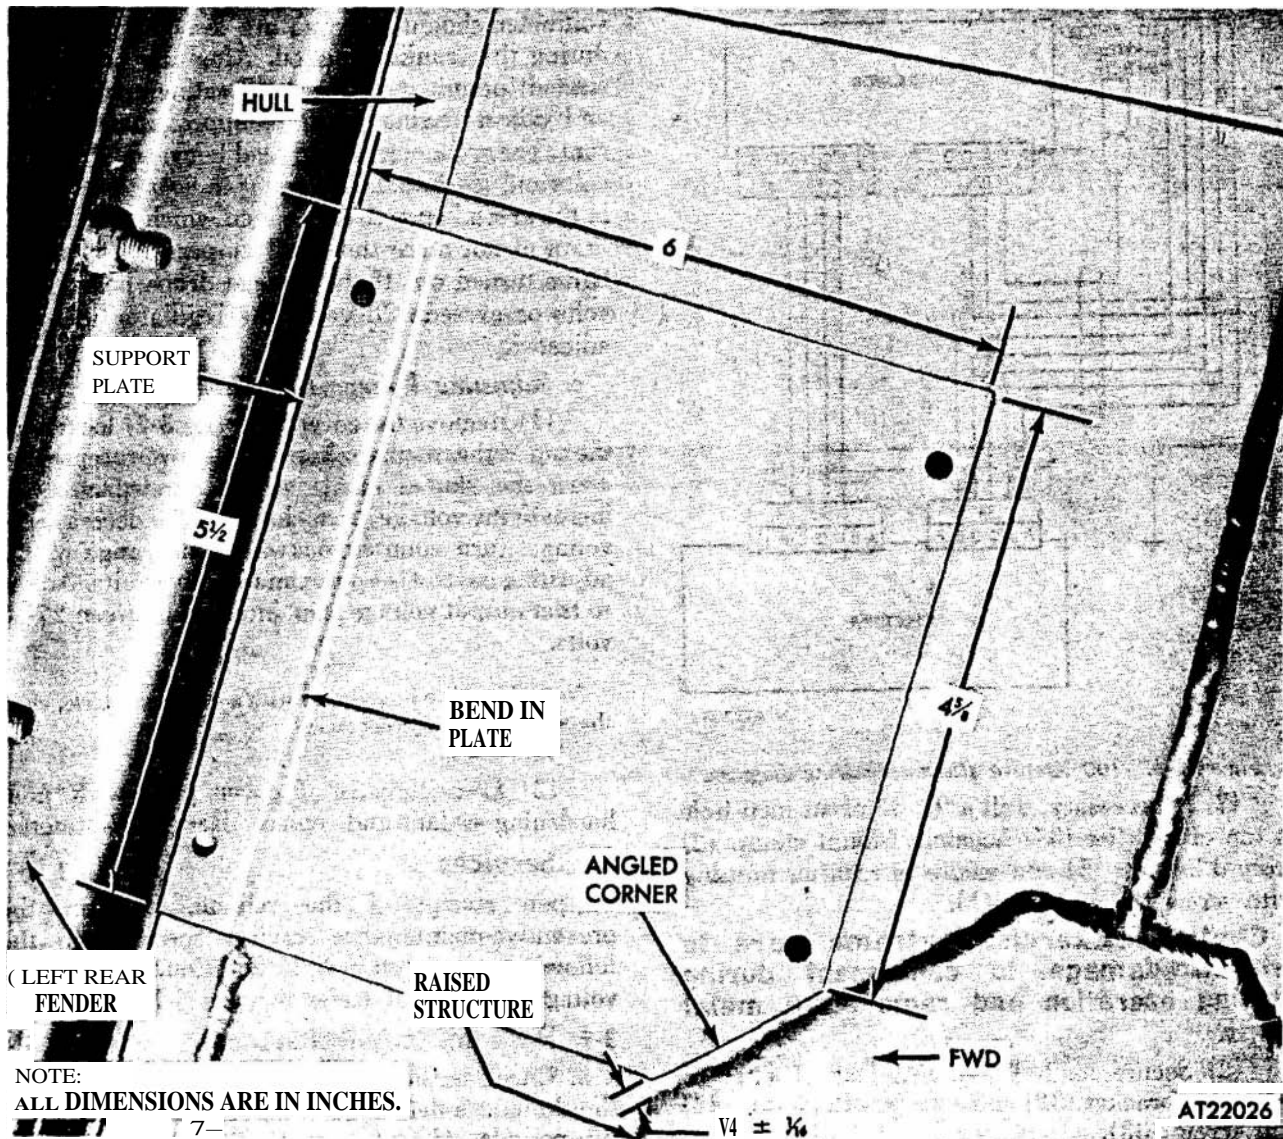

Figure 3-5. Hole drilling pattern for rectifier and regulator support plate.
(1) Position support plate under left rear fender of tractor so that bend in plate will butt against the welded lap beam of fender support and angled corner of the plate is $\frac{1}{4} \pm \frac{1}{16}$ of an inch from raised structure under tailpipe (fig 3-5).